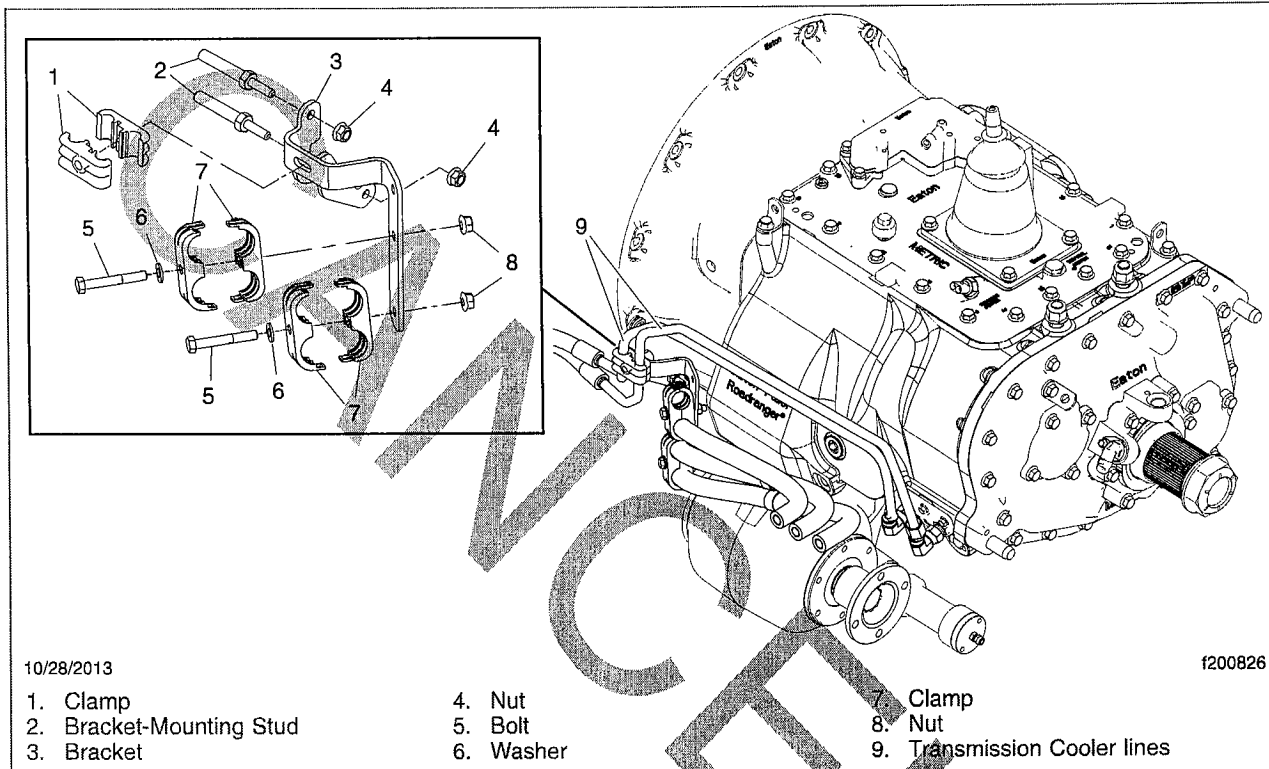

Fig. 4, Bell Housing Studs and Transmission Cooler Line Bracket
20. Install the new bell housing studs in the transmission bellhousing. Tighten 38 to 45 lbf-ft (52 to 61 N·m). See **Fig. 4**.
21. Install the new transmission cooler line bracket. See **Fig. 4**.